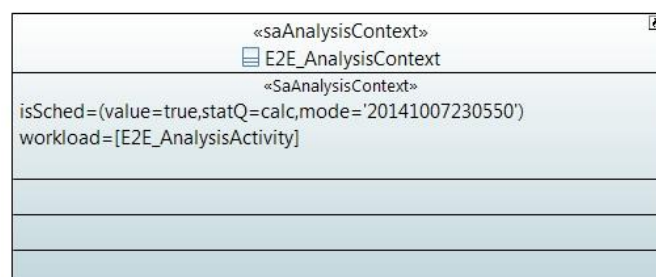

Figure 54 End2End Context updated with results
15. Also the Context is updated with the analysis results (Figure 54)